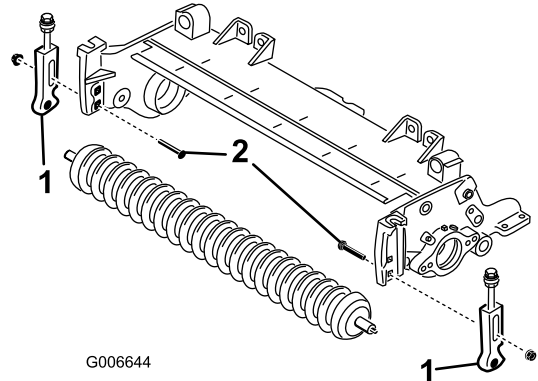

Figure 4
5. Remove the carriage bolts and nuts securing the height of cut brackets to the cutting unit side plates (Figure 4).
7. Remove the height of cut brackets and the front roller from the cutting unit side plates (Figure 4).